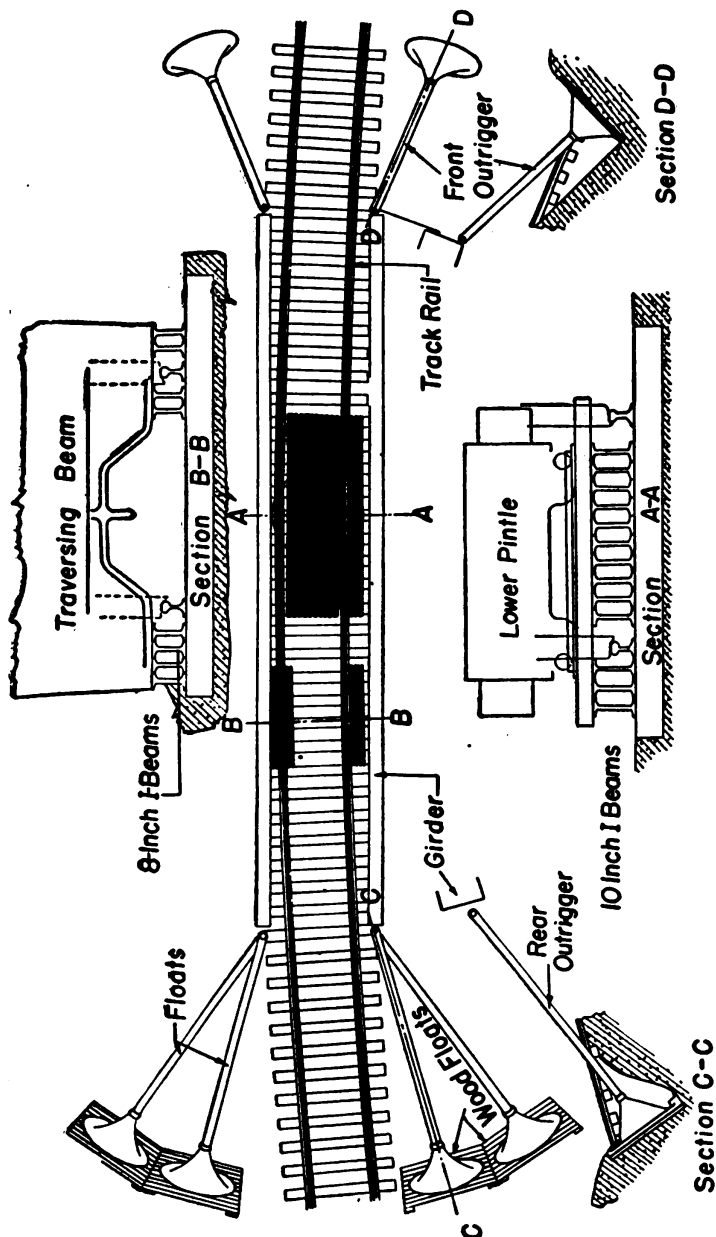

FIGURE 5.—Field emplacement of 14-inch railway gun.
should be on hand for banking. The wooden floats should be placed in position in the pits. (Fig. 5 shows the positions for the outriggers and floats when the track has a curvature of  $9\frac{1}{2}^\circ$ .)
**Q.** How are the outriggers swung out? **A.** When the mount has been lowered so that the lower pintle base plate and the mount traversing beam are resting on the I-beams (see fig. 5), the top carriage raising motor is stopped by turning the drum controller handle to the "off" position if the mount is being lowered by power. The six outriggers are swung into their positions. The front outriggers are swung into position by means of the 1-ton triplex blocks attached to each hanger. The ammunition cranes are used to swing the rear outriggers into position.